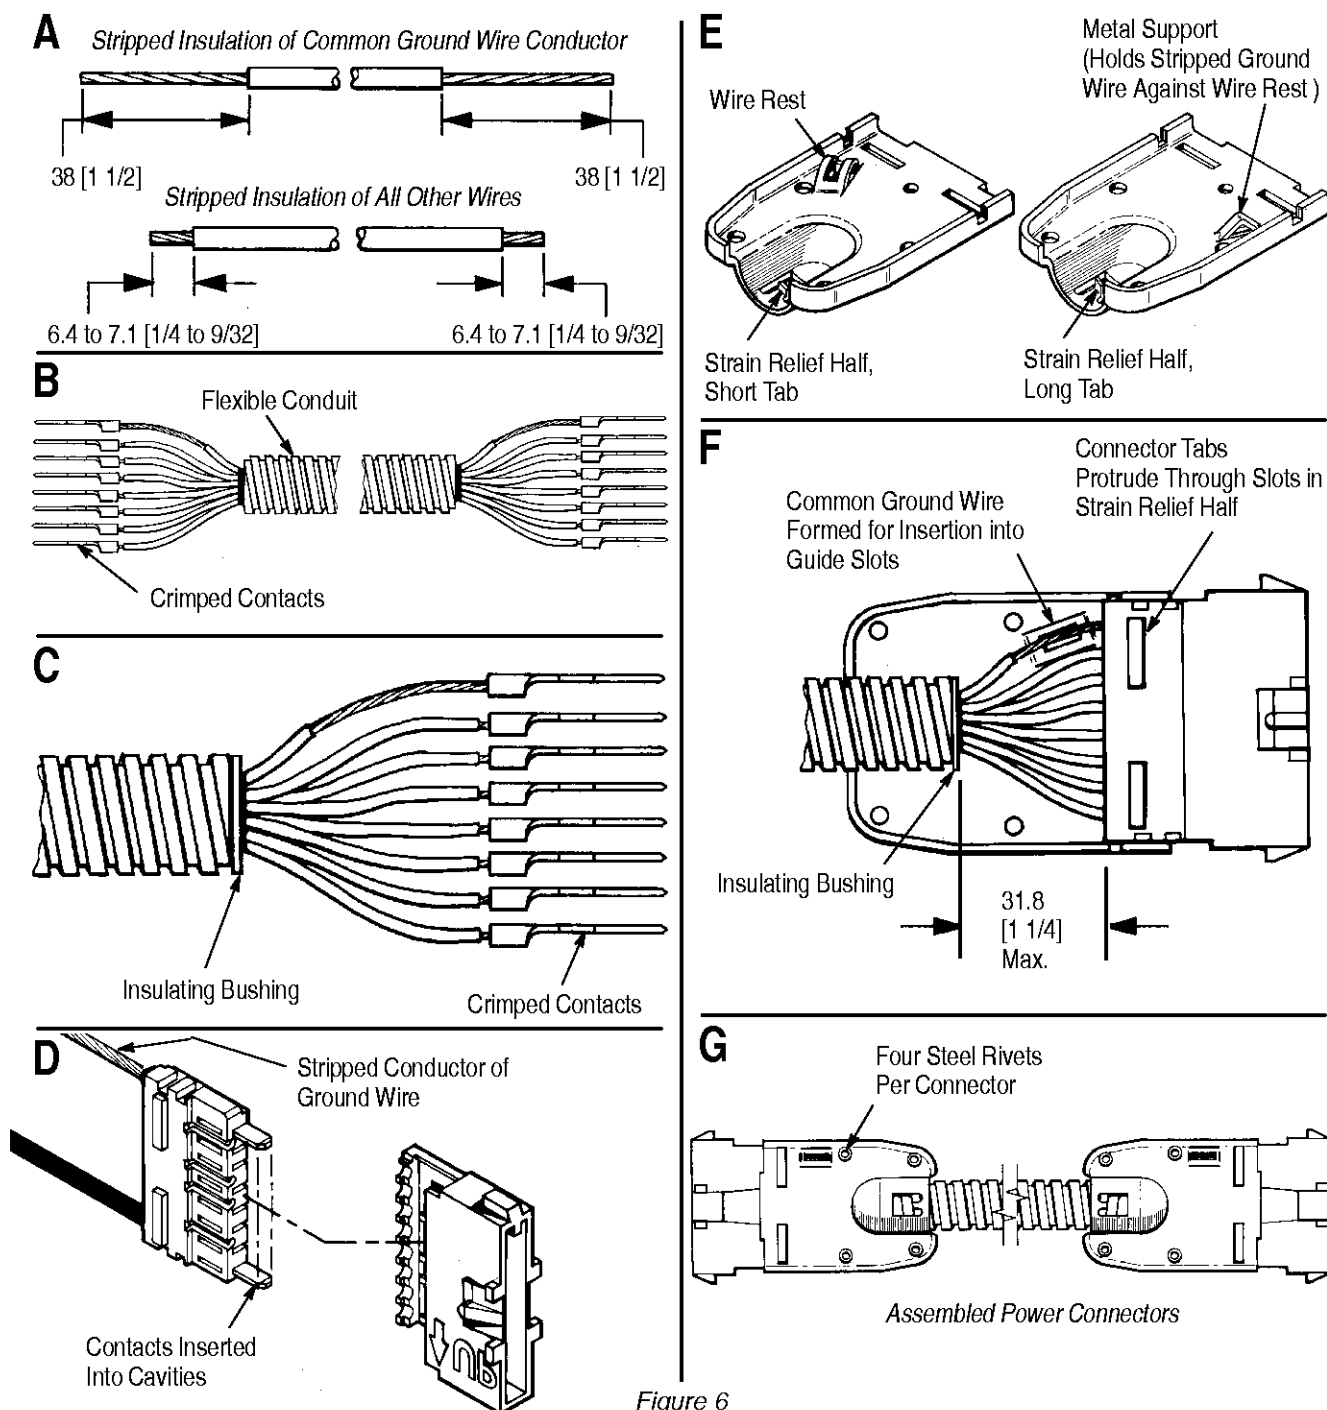

Figure 6
2. Strip each wire according to the information shown in Figure 6.A. Note that the wire to be used as the system ground is stripped 38 mm [1 1/2 in.], and the other wires are stripped 5.5 to 6.4 mm [7/32 to 1/4 in.].
4. Slide the flexible conduit over all the crimped contacts and make sure the wires are positioned so that an insulating bushing can be added at each end. See Figure 6.B.
5. Next, snap an insulating bushing on one end of the flexible conduit as shown in Figure 6.C. Then snap an insulating bushing onto the opposite end of the conduit.
6. Insert each crimped contact into its predetermined cavity using the procedures described in either Paragraph 4 or 5. See Figure 6.D. Do not restrict the movement of the contacts within the housing in a way that would affect their performance. Ensure that each wire is in its correct cavity.
of the ground wire in between the guide slots of the strain relief half so that they are located on the wire rest. (The wire rest is shown in Figure 6.E.) Ensure that the tabs of the power connector protrude through the open slots and hole of the strain relief half. A properly positioned connector assembly is shown in Figure 6.F.
8. Holding the strain relief half so the ground wire remains in position, lay the right strain relief half (555890-1 or -2) over the other half and around the flexible conduit. When properly positioned, the second strain relief half will retain the stripped conductors of the ground wire between the slots and against the wire rest. The completed harness assembly (connected by flexible conduit) is shown in Figure 6.G.